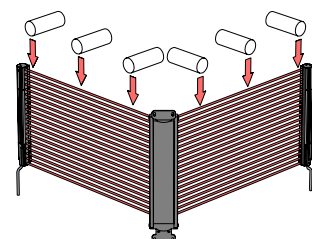

Figure 2. EZ-SCREEN LPM trip test for corner mirror applications
- *If corner mirrors are used in the application*, the beams must be tested in three places on *each leg of the beam path* (between emitter and mirror, and also between mirror and receiver, Figure 2).